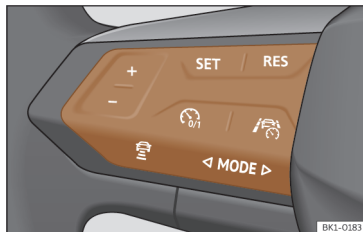

Fig. 110 On the multifunction steering wheel: buttons for operating the ACC.
- Press the  button on the multifunction steering wheel >>> **Fig. 110**.
- To start regulation, press the button **SET** >>> **Fig. 110**.
To program the speed, press the + or – >>> **Fig. 110** buttons to the desired speed. The speed is adjusted at intervals of 10 km/h (5 mph).
- Press the button  and then the button + or – >>> **Fig. 110**.
- Briefly press the button  >>> **Fig. 110** or press the brake pedal.